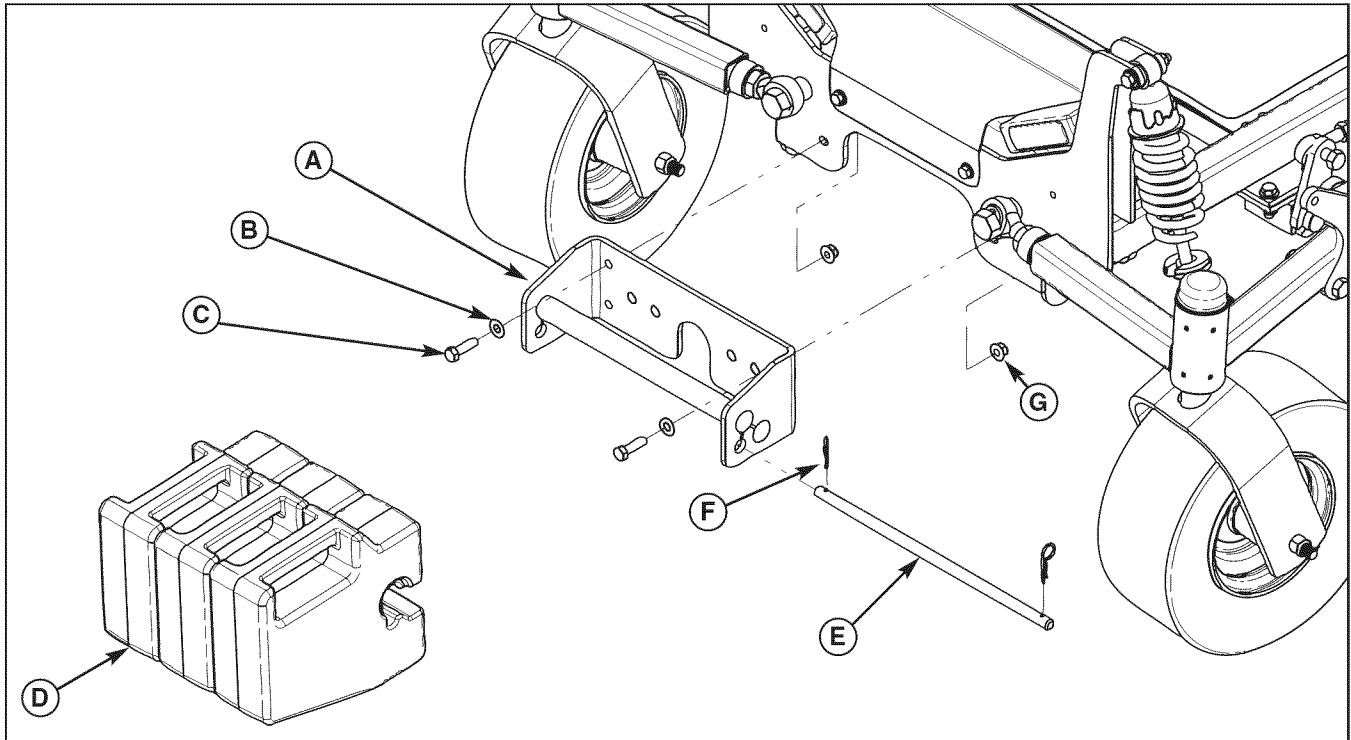

Figure 52. Install Weight Carrier
1. Install the weight carrier (A, Figure 52) onto the front of the unit and secure with the 3/8-16 x 1-1/4" bolts (C), 3/8" washers (B) and 3/8-16" nylock flange nuts (G).
NOTE: Use top holes in the weight carrier for the IS2000Z Series (as shown in Figure 52).